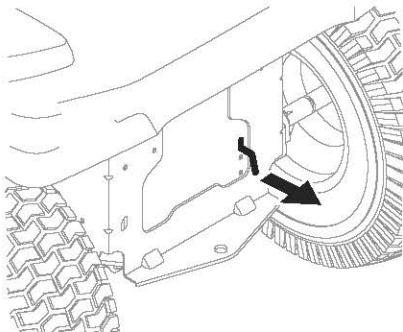

Figure 1
- Engage the transmission bypass rod to move the tractor manually without starting it. The transmission bypass rod is located on the rear of the tractor, on the frame. Engage the bypass rod by pulling out (Figure 1).
- Disengage the transmission bypass rod by pushing the rod back in after moving the tractor (Figure 1).